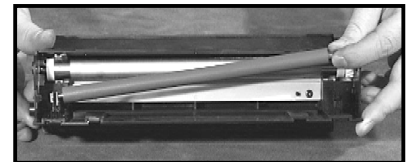

Figure 5
5. Remove the PCR and set it aside. The OEM is carbon foam filled PCR with a resistive layer that will not hold up to strong cleaning solvents (fig. 5).